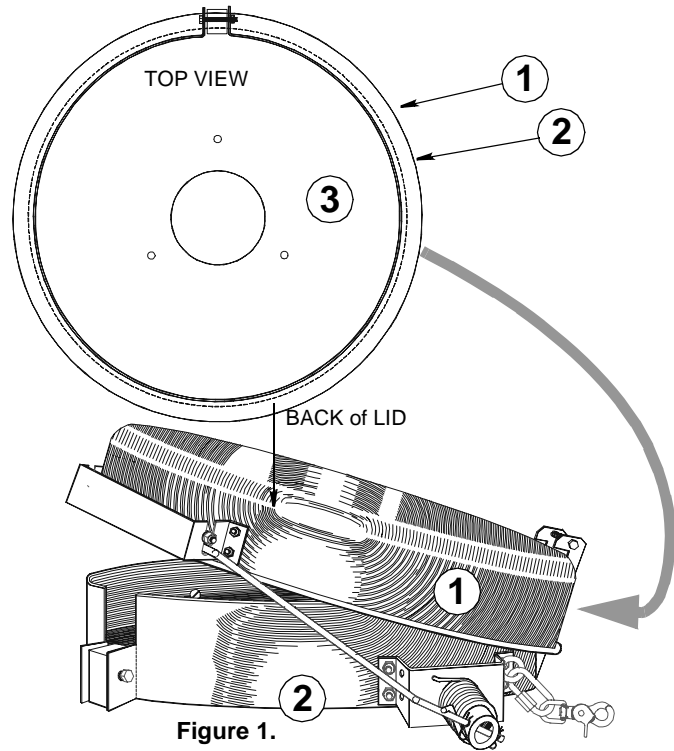

Figure 1.
The Snow Seal Plate attaches underneath the Lid (see **Figures 1 and 2**) in three places with the Hardware Kit provided.
1. **Center** the Snow Seal Plate (Item 3) under the Lid (Item 1) with the three holes positioned as shown in **Figure 1**, Top View.